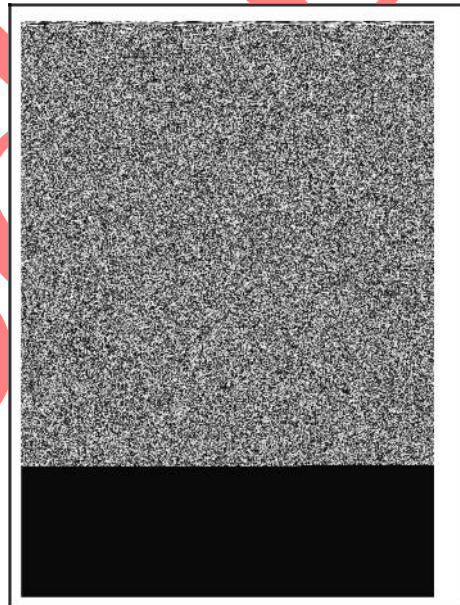

Figure 10
3. Remove muffler support screws (A, Figure 10).